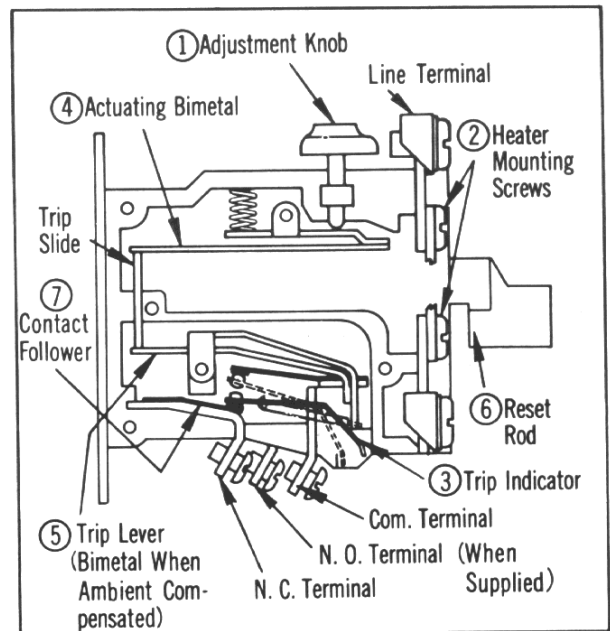

Fig. 2 - Parts Identification
The Westinghouse Type A Single Pole Overload Relays must be installed in a vertical position with the adjustment knob (1) Figure 2, at the top. Each relay is accurately calibrated at the factory and should not be tampered with. Installation should be made with the proper wire size for the application and all wires should be securely fastened to the relay.
The trip rating of a specific heater element can be adjusted over a range of approximately 85% to 115%. This is accomplished by turning the red adjusting knob (1) on top of the relay (see Figure 2) to the respective stop position. With replaceable heaters (see (2), Figure 2) in approx. 10% current increments the relay is capable of being adjusted over this 10% range to permit the desired close protection.
An immediate visible indication of trip is standard on the Type A overload relay. When an overload occurs, which causes the relay to operate, a trip indicator (3) projects out through a small opening at the bottom of the relay (see Figure 2) and thus shows positive visual indication of trip.